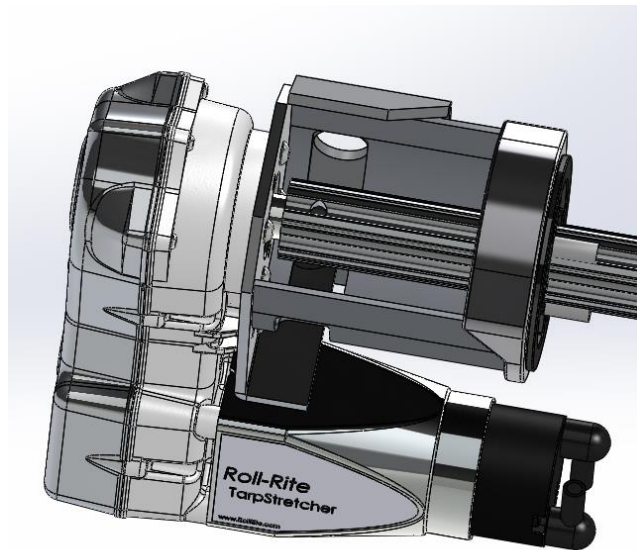

Figure 11
5. Lift the front knuckle arm up to the axle. Pull the axle into the axle bushing and slide it over the motor shaft. Twist the axle to align the hole in the axle with the motor shaft hole. Bolt the axle to the motor using the $\frac{3}{8}$ " x $2\frac{3}{4}$ " bolt & Nylock nut supplied in the motor shaft end. Note: the motor may need to be powered to turn the axle to a position that both ends of the bolt are accessible. Refer to the Figure 11 below